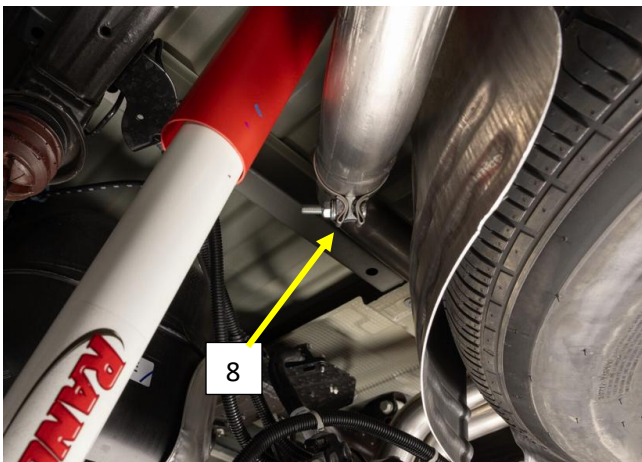

Figure.16
18. Install a 2.5" band clamp (8) onto the expanded and notched end of the Right rear tail pipe (7) with the bolt on the bottom of the pipe and nut facing out. **Fig.16**
21. Install a 2.5" band clamp (8) onto the expanded and notched end of the Left rear tail pipe (6) with the bolt on the bottom of the pipe and nut facing out. **Fig.16**